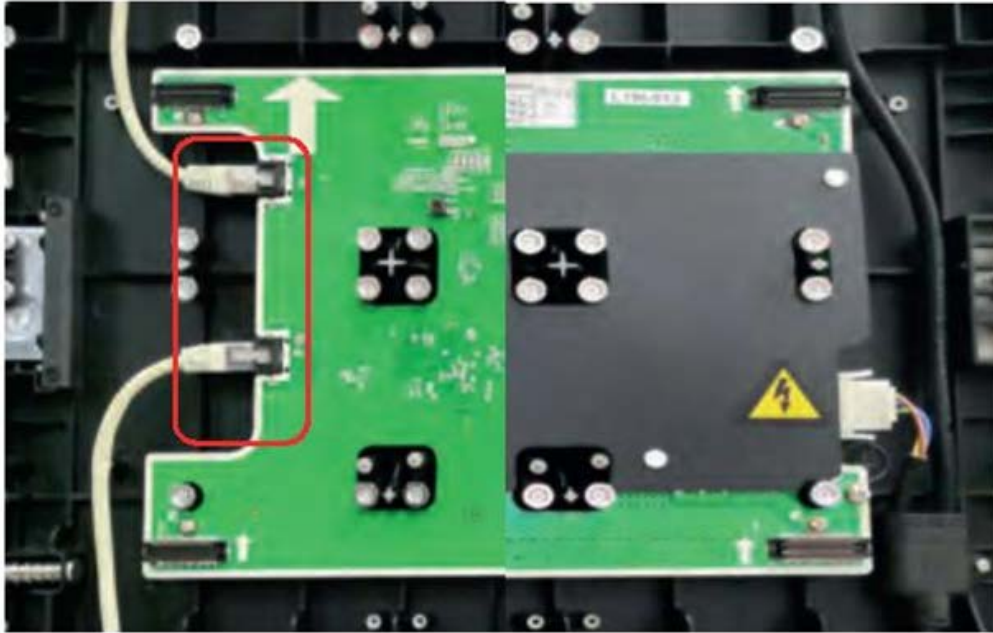

Figure 32
5. Connect the 3-in-1 board to power and the network as shown in Figure 32. Consult cable labels and terminal markings when making electrical connections.